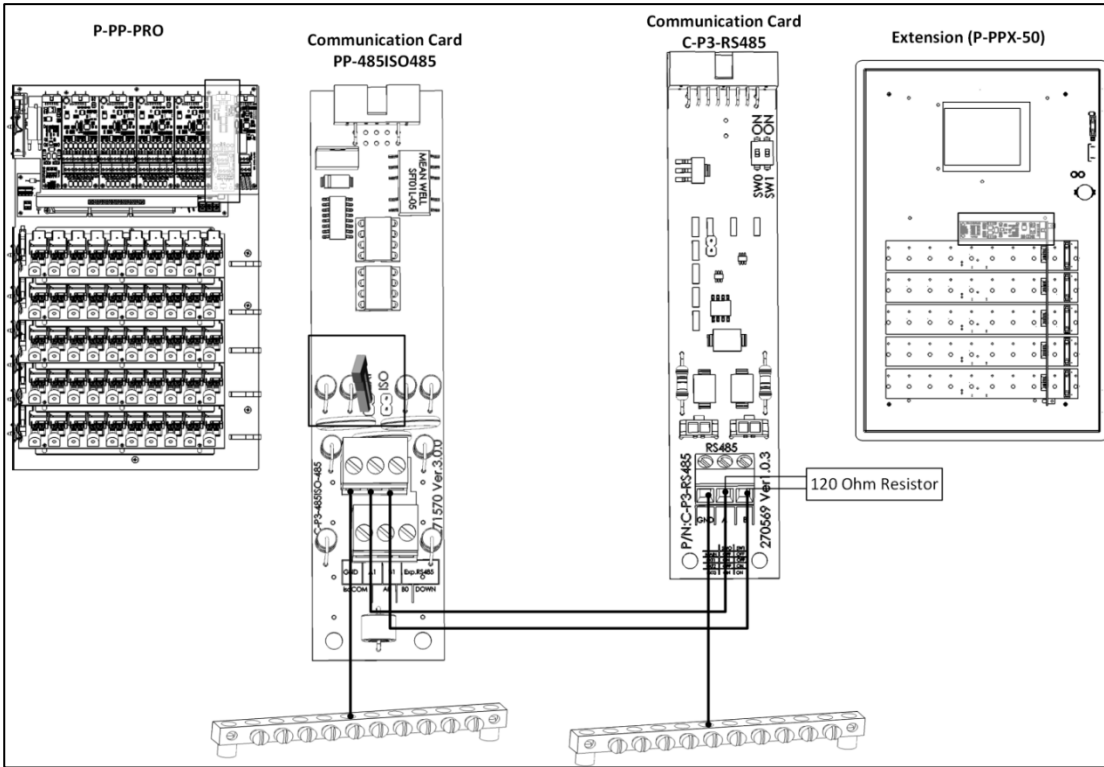

Figure 47: Expansion Box - Controller Termination
- If an Expansion unit is installed at the end of a chain, install a 120 Ohm termination resistor (supplied by Munters) (Figure 47).